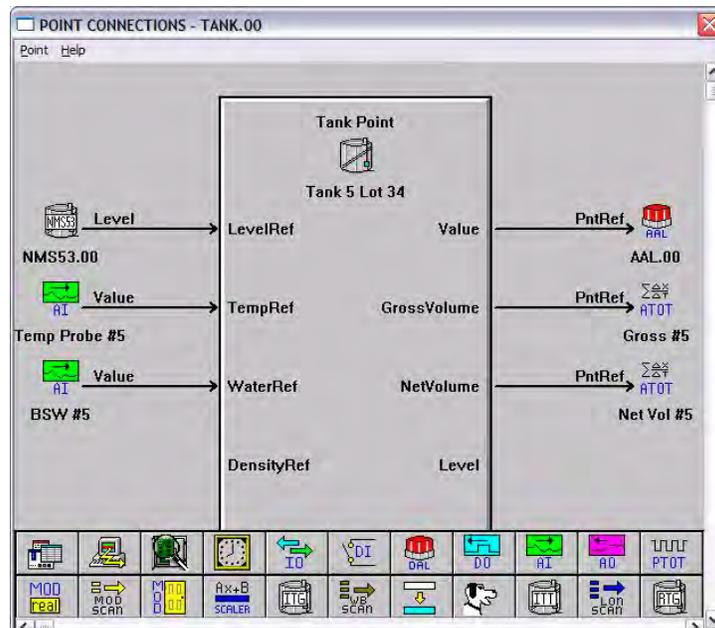

Figure 8-38: Point Connections Window
2. The point icon will appear to the right or left of the selected arrow as seen Figure 8-38.